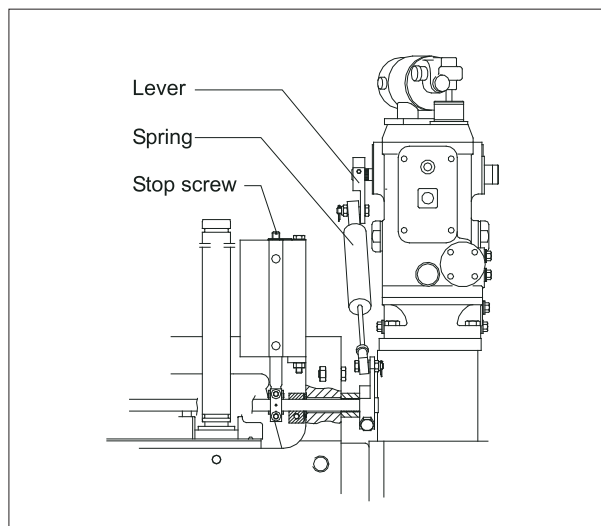

Fig 2.
2. Turn the lever (fig 2) of the governor a few times to full load with an adjustable spanner (spring between governor and fuel rack full compressed). Check that the fuel index is 24 mm at the fuel pump.
7. Adjust the stop screw, see fig 2, to 110% load according to the test bed, plus 1.5 index. Use the index arm on the fuel pump nearest to the lambda controller as control for the index.